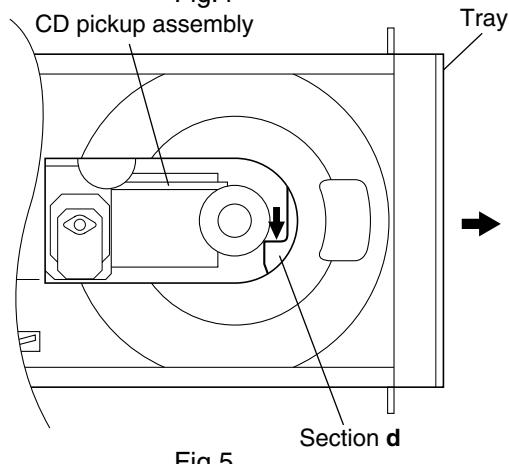

Fig.5
- 2. Push the section **d** of the elevator in the direction of the arrow and lower the CD pickup assembly. (See Fig.5.)
- 3. Pull out the tray. (See Fig.5.)